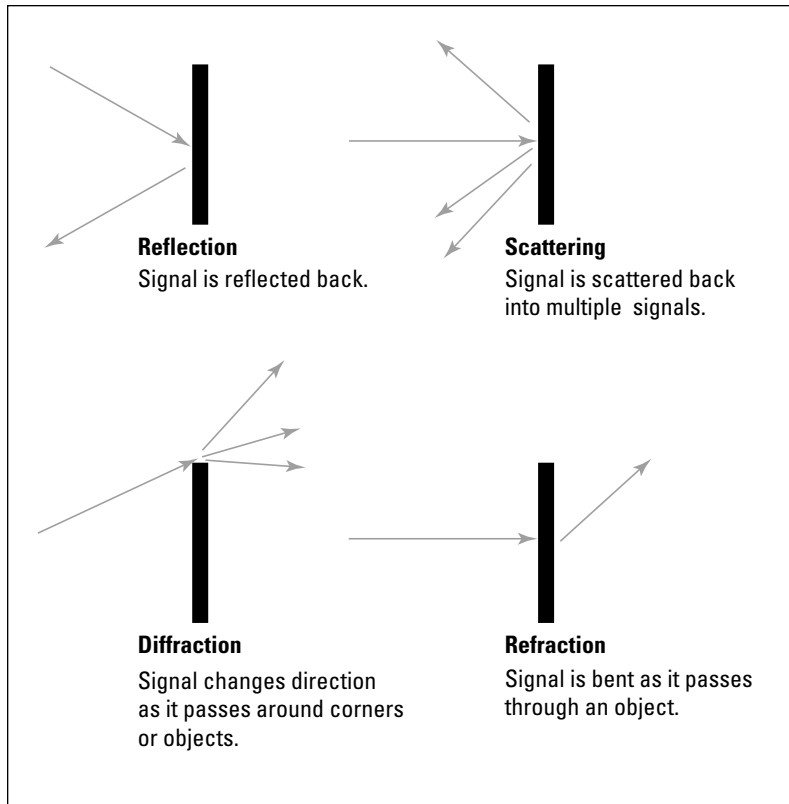

Figure 11-5:
- *Multipath fading:* Multipath fading occurs when the receiver sees the overlapping of multiple copies of the transmitted signal, each traversing a different path. This effect is caused when items such as people, chairs, desks, and other objects get in the way and cause the signal to bounce in different directions. A portion of the signal may go directly to the destination; another part may bounce from a chair to the ceiling and then to the destination. As a result, some of the signal encounters delay and travels a longer path to the receiver (see Figure 11-5). As a result, the RSSI value received by the receiver isn't necessarily the value that can be used for locating.
- *Time delay:* An anomaly that goes hand in hand with multipath fading, *time delay* is the amount of timing variation among different radio frequency (RF) signals. Time delay can cause phase and polarization changes as well as multipath fading. Unlike multipath fading, which affects signal amplitude, time delay adversely affects the receiver's ability to decode signals due to distortion.